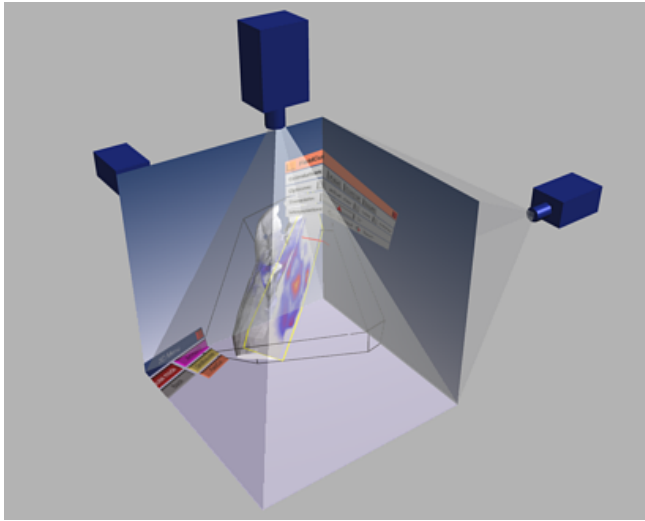

Figure 7.4: Schematic view of a 3-side CAVE system.
A CAVE (TM) is a more or less fully immersive VR display system with the shape of a cubical box. Typically the size of the box is something like 3 x 3 x 3 meters. Three, four, five, or even six sides of the box are implemented as projection screens. In this way an observer inside the box can completely dive into a virtual world. In order to compute correct perspective views the eye position of the observer need to be tracked. Other non-tracked observers will perceive distorted images, especially at the edges between the individual walls. A schematic view of a 3-side CAVE is shown in Figure 7.4.